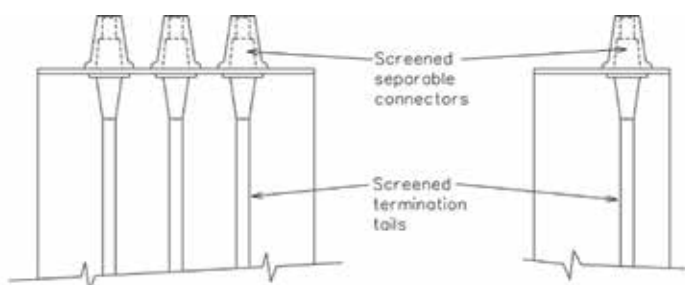

Figure 12: Screened separable connector termination – inside cone (Type 5).
- Type 5 termination - screened separable connector terminations – inside cone, see *Figure 12*